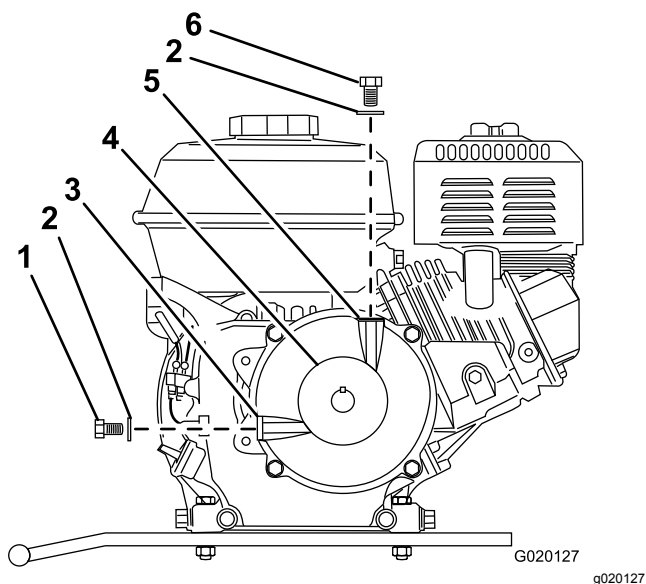

Figure 60
6. Remove the filler bolt and washer from the filler port on the top of the reduction case (Figure 60).
7. Remove the oil-level-check bolt and washer from the oil-level port in the side of the reduction case (Figure 60).
12. Install the oil-level-check bolt and washer to the oil-level port of the reduction case, and tighten the bolt (Figure 60).
13. Install the filler bolt and washer to the filler port of the reduction case and tighten the filler bolt (Figure 60).